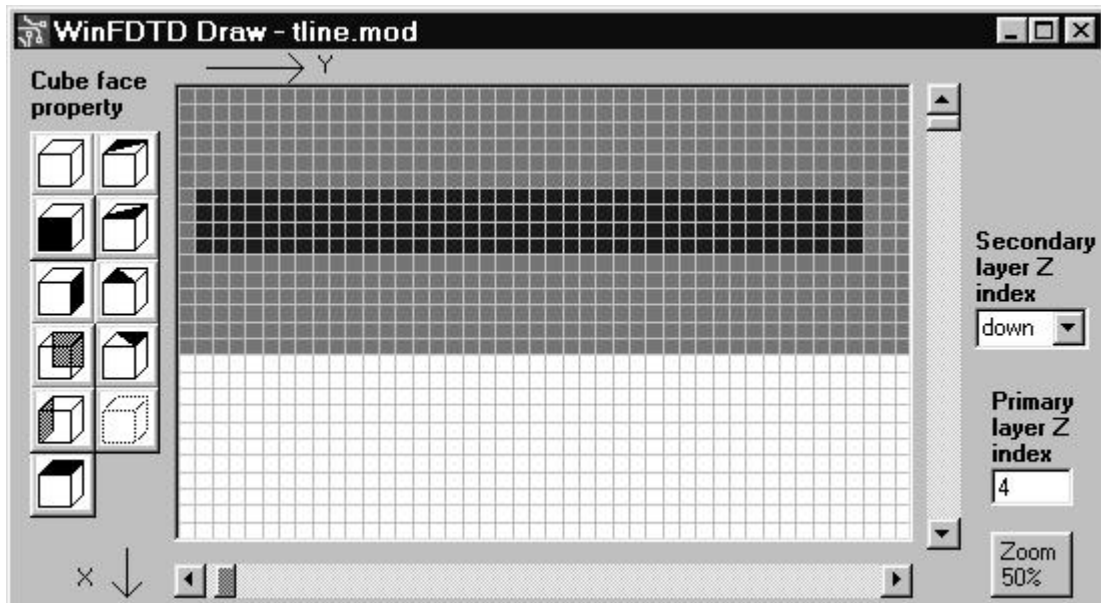

Figure A8.10 – After drawing the trace for transmission line.
- Draw a conducting trace for all cubes between Cube (7,6,4) and Cube (10,45,4). The result is depicted in Figure A8.10. In drawing the trace, you can use either the “Cube” or “Region” draw mode.